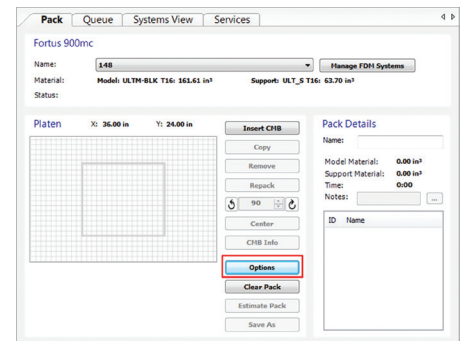

Figure 11: The pack options are accessed from the Options button on the pack tab.
STEP 1: On the Pack tab, click on the packing **Options** button (Figure 11).